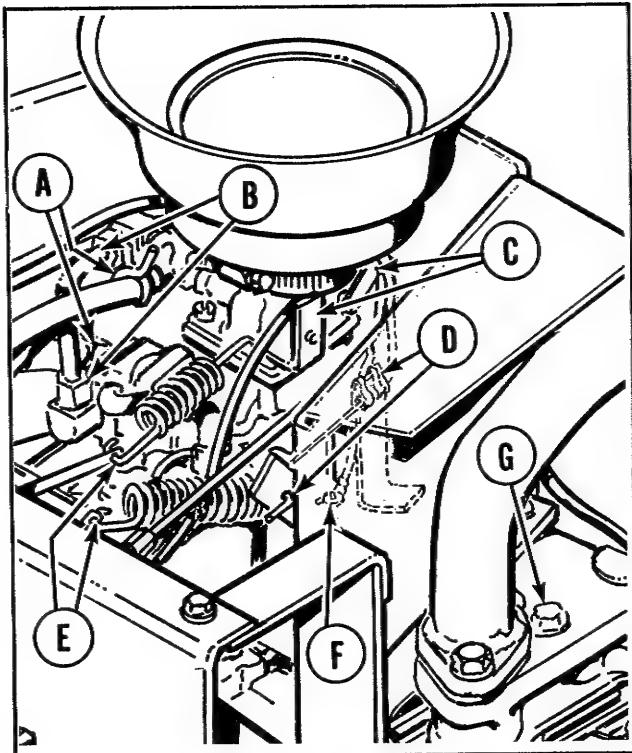

Figure 40. Engine viewed from right side of tractor.
3. See figure 40. Disconnect the two fuel hoses (A) at the carburetor and fuel pump and the fuel line (B) between the carburetor and fuel pump.
4. Disconnect the choke cable (C) at the carburetor and the speed control cable (D) and the two governor springs (E) at the governor.
5. Remove screw (F) which holds the ground wire from the breaker point box to the manifold.
6. Use a 9/16" wrench to remove the two manifold mounting capscrews (G) from the manifold.